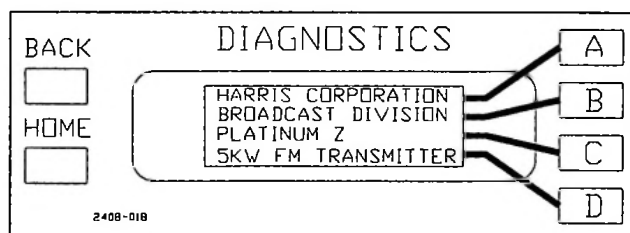

Figure 2-5 Default Display
STEP 3 Verify that the two LCD displays on the front of the controller are active. The Diagnostics display should look like Figure 2-5. The Fault LED on the front panel will be lit, since the modules are not installed yet, and should be ignored at this point.